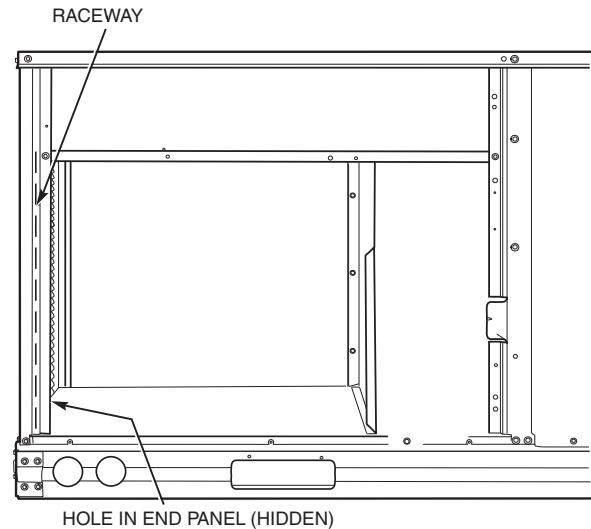

Fig. 54 — Field Control Wiring Raceway (089-150 Only)
Unit Without Thru-Base Connection Kit — Pass the thermostat control wires through the hole provided in the corner post; then feed the wires through the raceway built into the corner post to the control box. Pull the wires over to the terminal strip on the upper-left corner of the Controls Connection Board. See Fig. 54.
2. Feed wires through the raceway built into the corner post (see Fig. 54) to the 24-v barrier located on the left side of the control box. The raceway provides the UL-required clearance between high-voltage and low-voltage wiring.